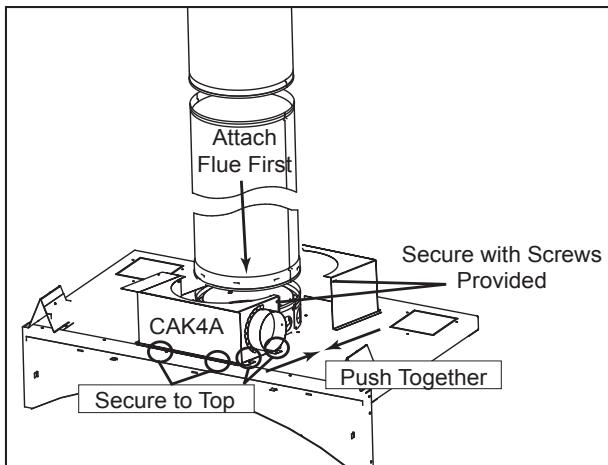

Figure 6.3 Installing the CAK4A
- Secure the CAK4A in place. See Figure 6.3.
- Seal around the kit at the flue and at the top of the can with caulk. See Figure 6.3.